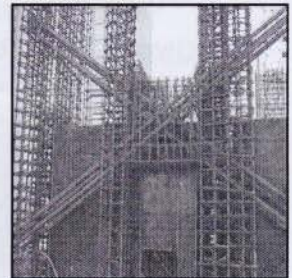

Fig. 1(d)
- (i) Drop Panel of Flat Slab [Fig. 1(a)]